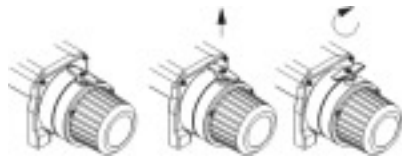

Figure 8
Rotate the clutch lever to the "Free" position as shown in Figure 8. If there is a load on the wire rope, the clutch lever may not turn easily. **DO NOT FORCE THE CLUTCH LEVER.** Release tension on the wire rope by jogging out some of the wire rope, then try releasing the clutch. Pull out the wire rope and secure to anchor or load. Check that there are at least five (5) turns of wire rope left on the drum. Re-engage the drum by rotating the clutch lever to the "Engaged" position (see Figure 8).